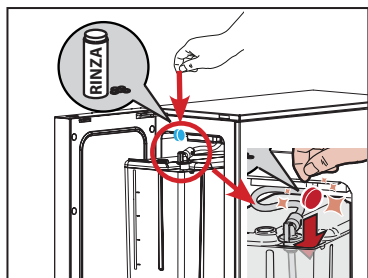

Fig.7
7. Add one RINZA tablet to the smaller sized part of the milk container (located at right-hand side) (See Fig.7).
7. Empty the milk tank and then rinse the milk tank and lid with warm water (use a mild cleaning agent to wash the tank, if necessary) (See Fig.7).
7. Empty the milk tank (See Fig.7).